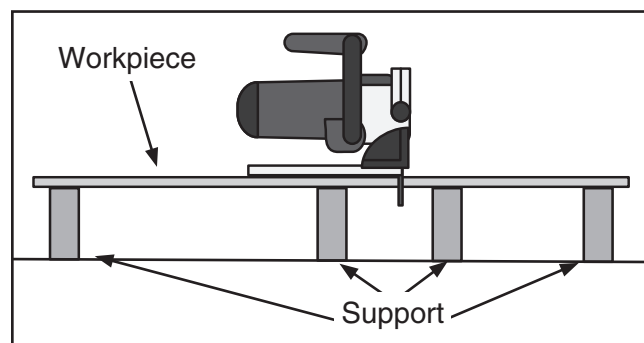

Figure 1. Cutting with proper workpiece support.
- To help prevent the blade from binding in the workpiece: (1) keep cuts straight, (2) maintain a consistent depth and angle throughout cut, (3) provide proper workpiece support on both sides of the cut (see **Figures 1–2**).